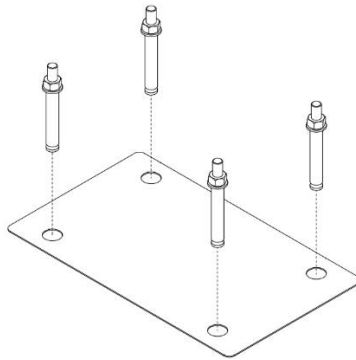

Figure 2-1
- 2) Drive four expansion bolts into the Bolt Holes Dimensioning, as shown in figure 2-1.